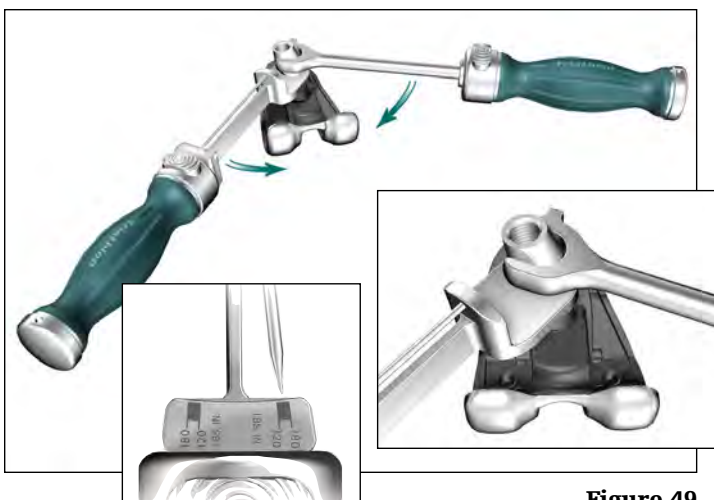

Figure 49
- Tighten by pulling the wrenches **together**. Torque to 120 in-lbs as indicated on the Universal Torque Wrench (**Figure 49**).